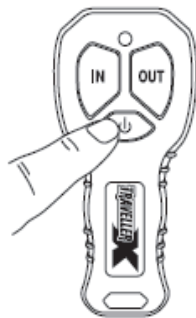

Fig 13
Step 2: Turn on the wireless remote by pressing the power switch button for 3 seconds until the blue LED lights up. (Fig 13)